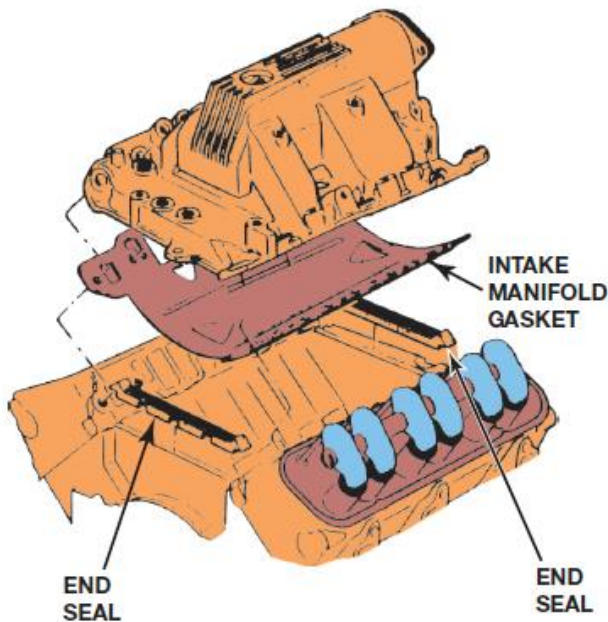

Figure 38. Intake manifold and gaskets.
- The intake manifold gasket for a V-type engine may be a one-piece gasket or it may have several pieces. Inline engines usually have a one-piece intake manifold gasket. Only some exhaust manifolds use gaskets. The exhaust manifold operates at very high temperatures, so there is usually some expansion and contraction movement in the manifold-to-head joint. Fig. 38.